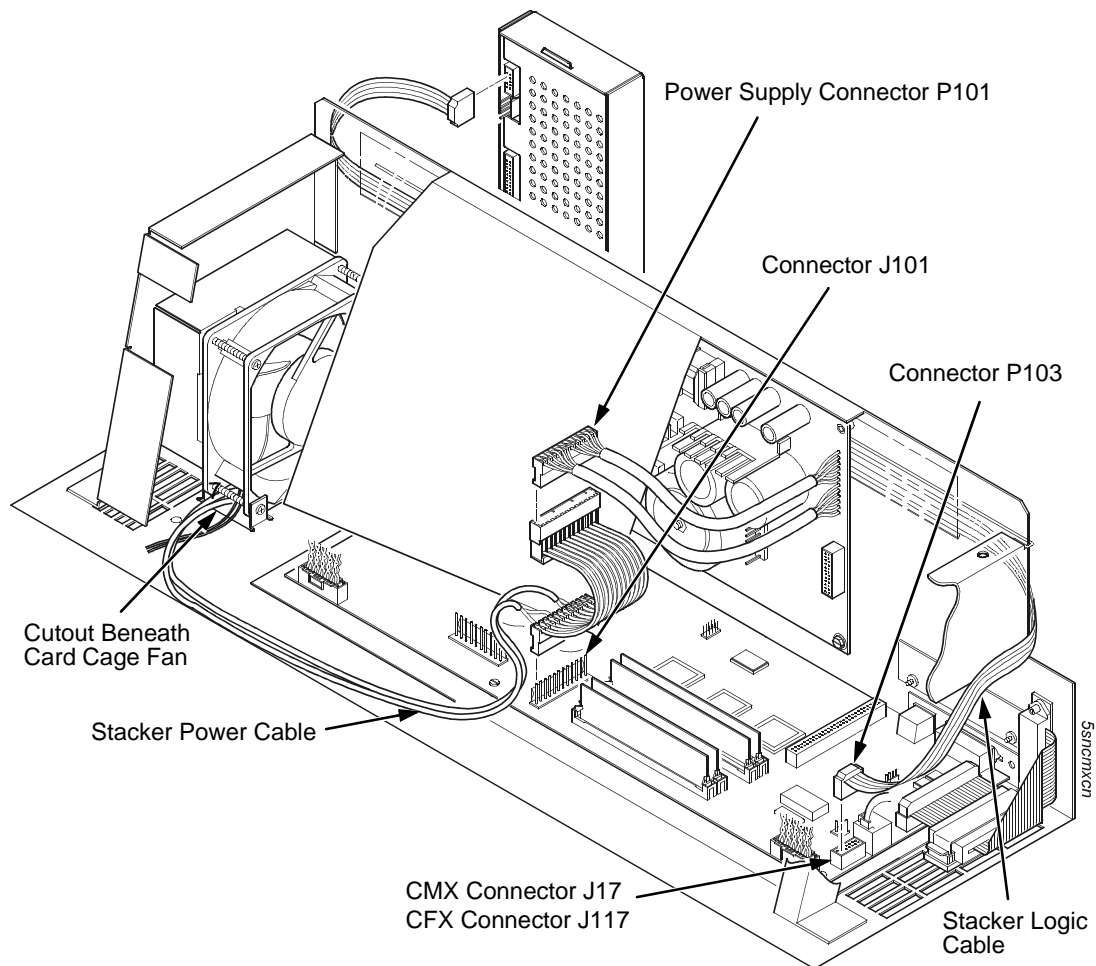

Figure 72. Stacker Power and Logic Connections on the Controller Board
5. Connect the power stacker logic cable P103 to connector J17 or J117 on the controller board. (Figure 72.)
6. Disconnect the power supply cable from connector J101 on the controller board. (Figure 72.)
7. Connect power supply cable connector P101 to the stacker power cable, then connect the stacker power cable to connector J101 on the controller board. (Figure 72.)
8. Route the stacker power cable in front of the controller board and down through the cutout under the card cage fan. (Figure 72.)
9. Route the stacker logic cable through the opening between the card cage and the cabinet frame and behind the card cage. (Figure 72.)